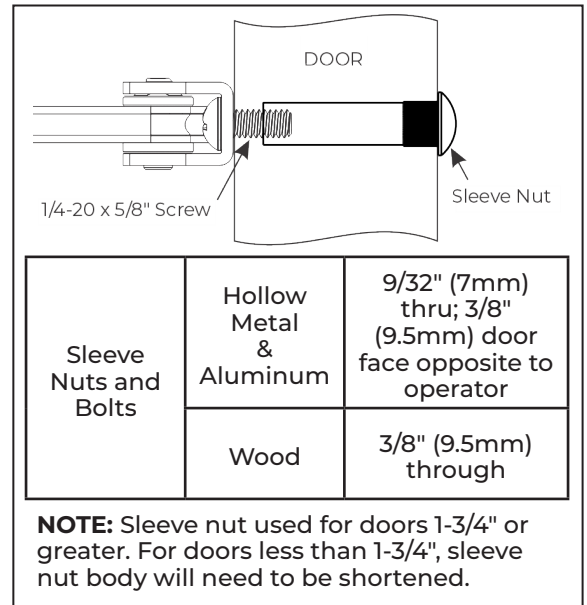

Fig. 5
- Reference Fig. 5 and 1/4-20 x 5/8" screws with sleeve nuts.
Reference Fig. 5 and use 1/4-20 x 5/8" screws with sleeve nuts.